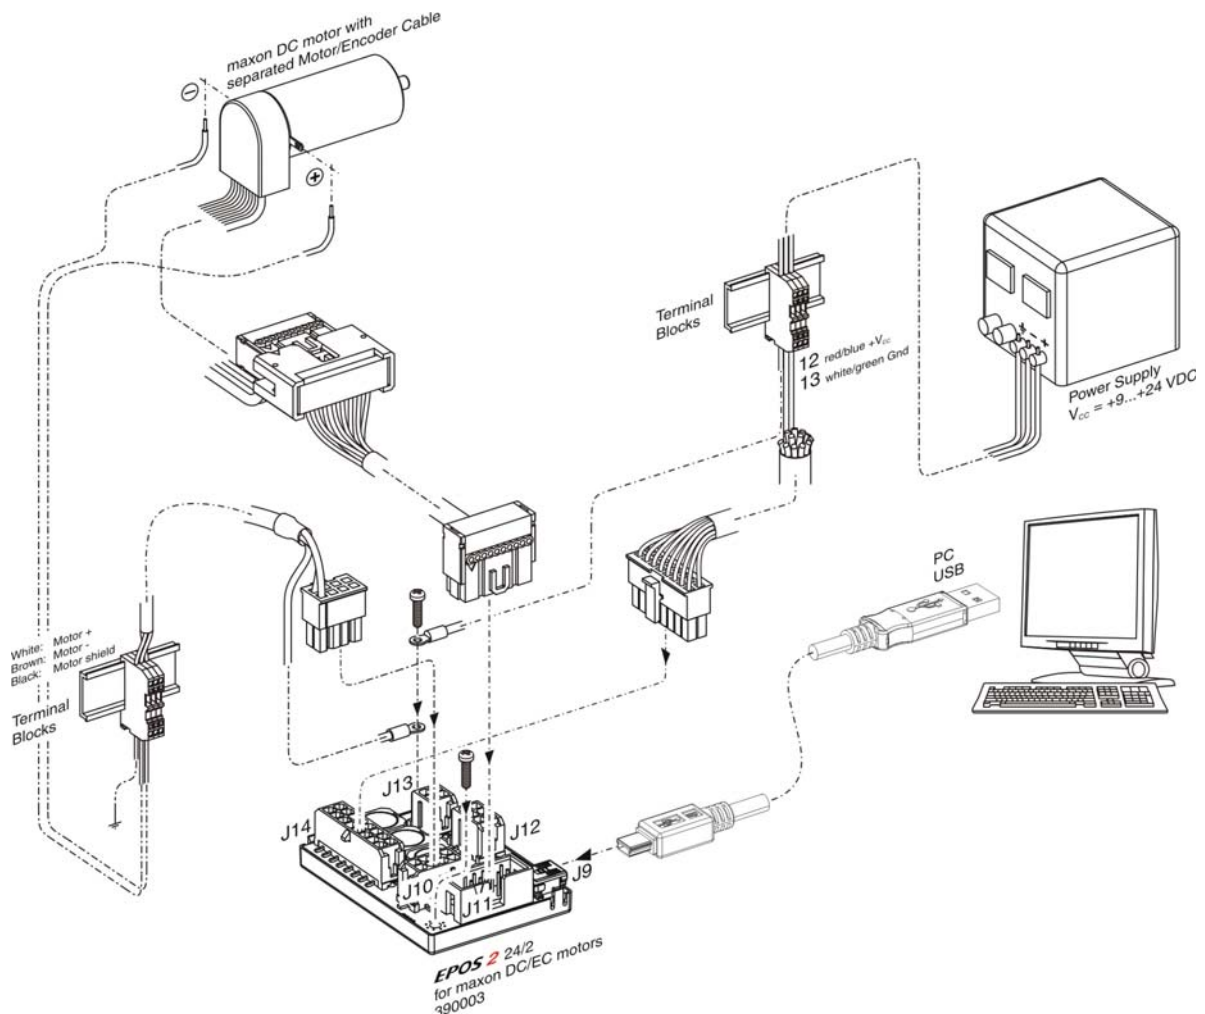

Figure 3-4 Minimum Wiring: maxon DC motor (separated Encoder Cable)
- 2) Connect maxon cable assemblies (→ Table 3-6 and Figure 3-4).